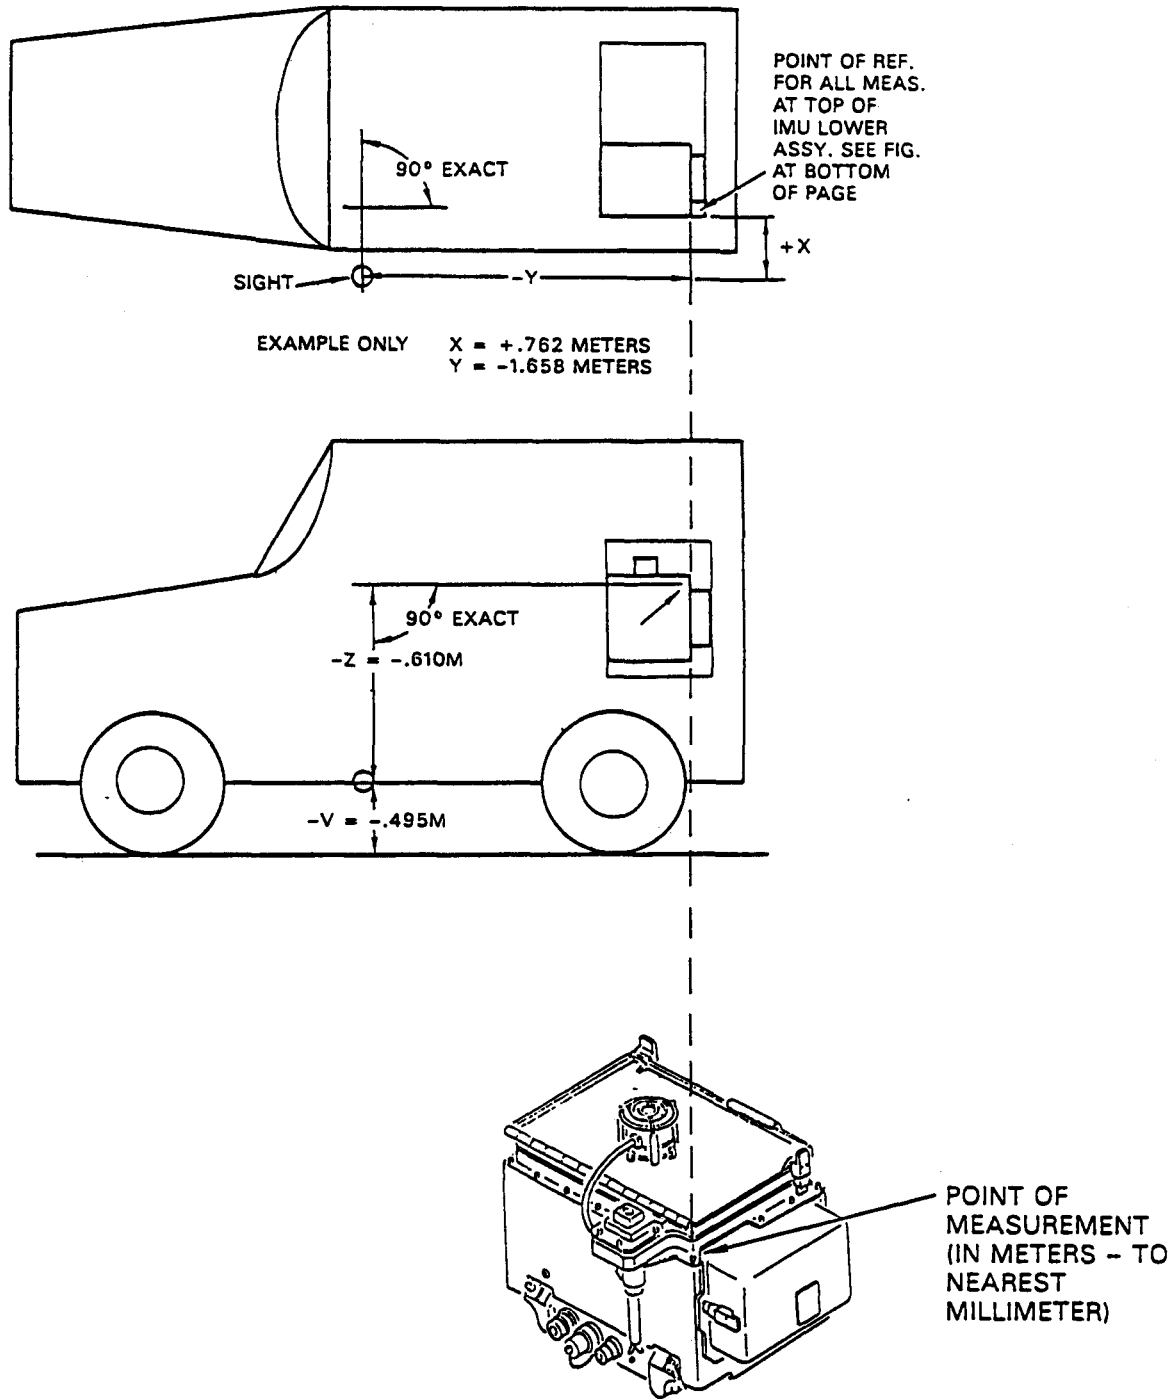

Figure 3-1.1. Nonstandard Vehicle Example
(1) While PADS is aligning or preferably after alignment is complete, the operator may insert up to three nonstandard vehicle selections after determining the X, Y, Z, and V lever arm dimensions using figure 3-1.1 as an example. All lever arm entries and displays must be in meters to the nearest millimeter.